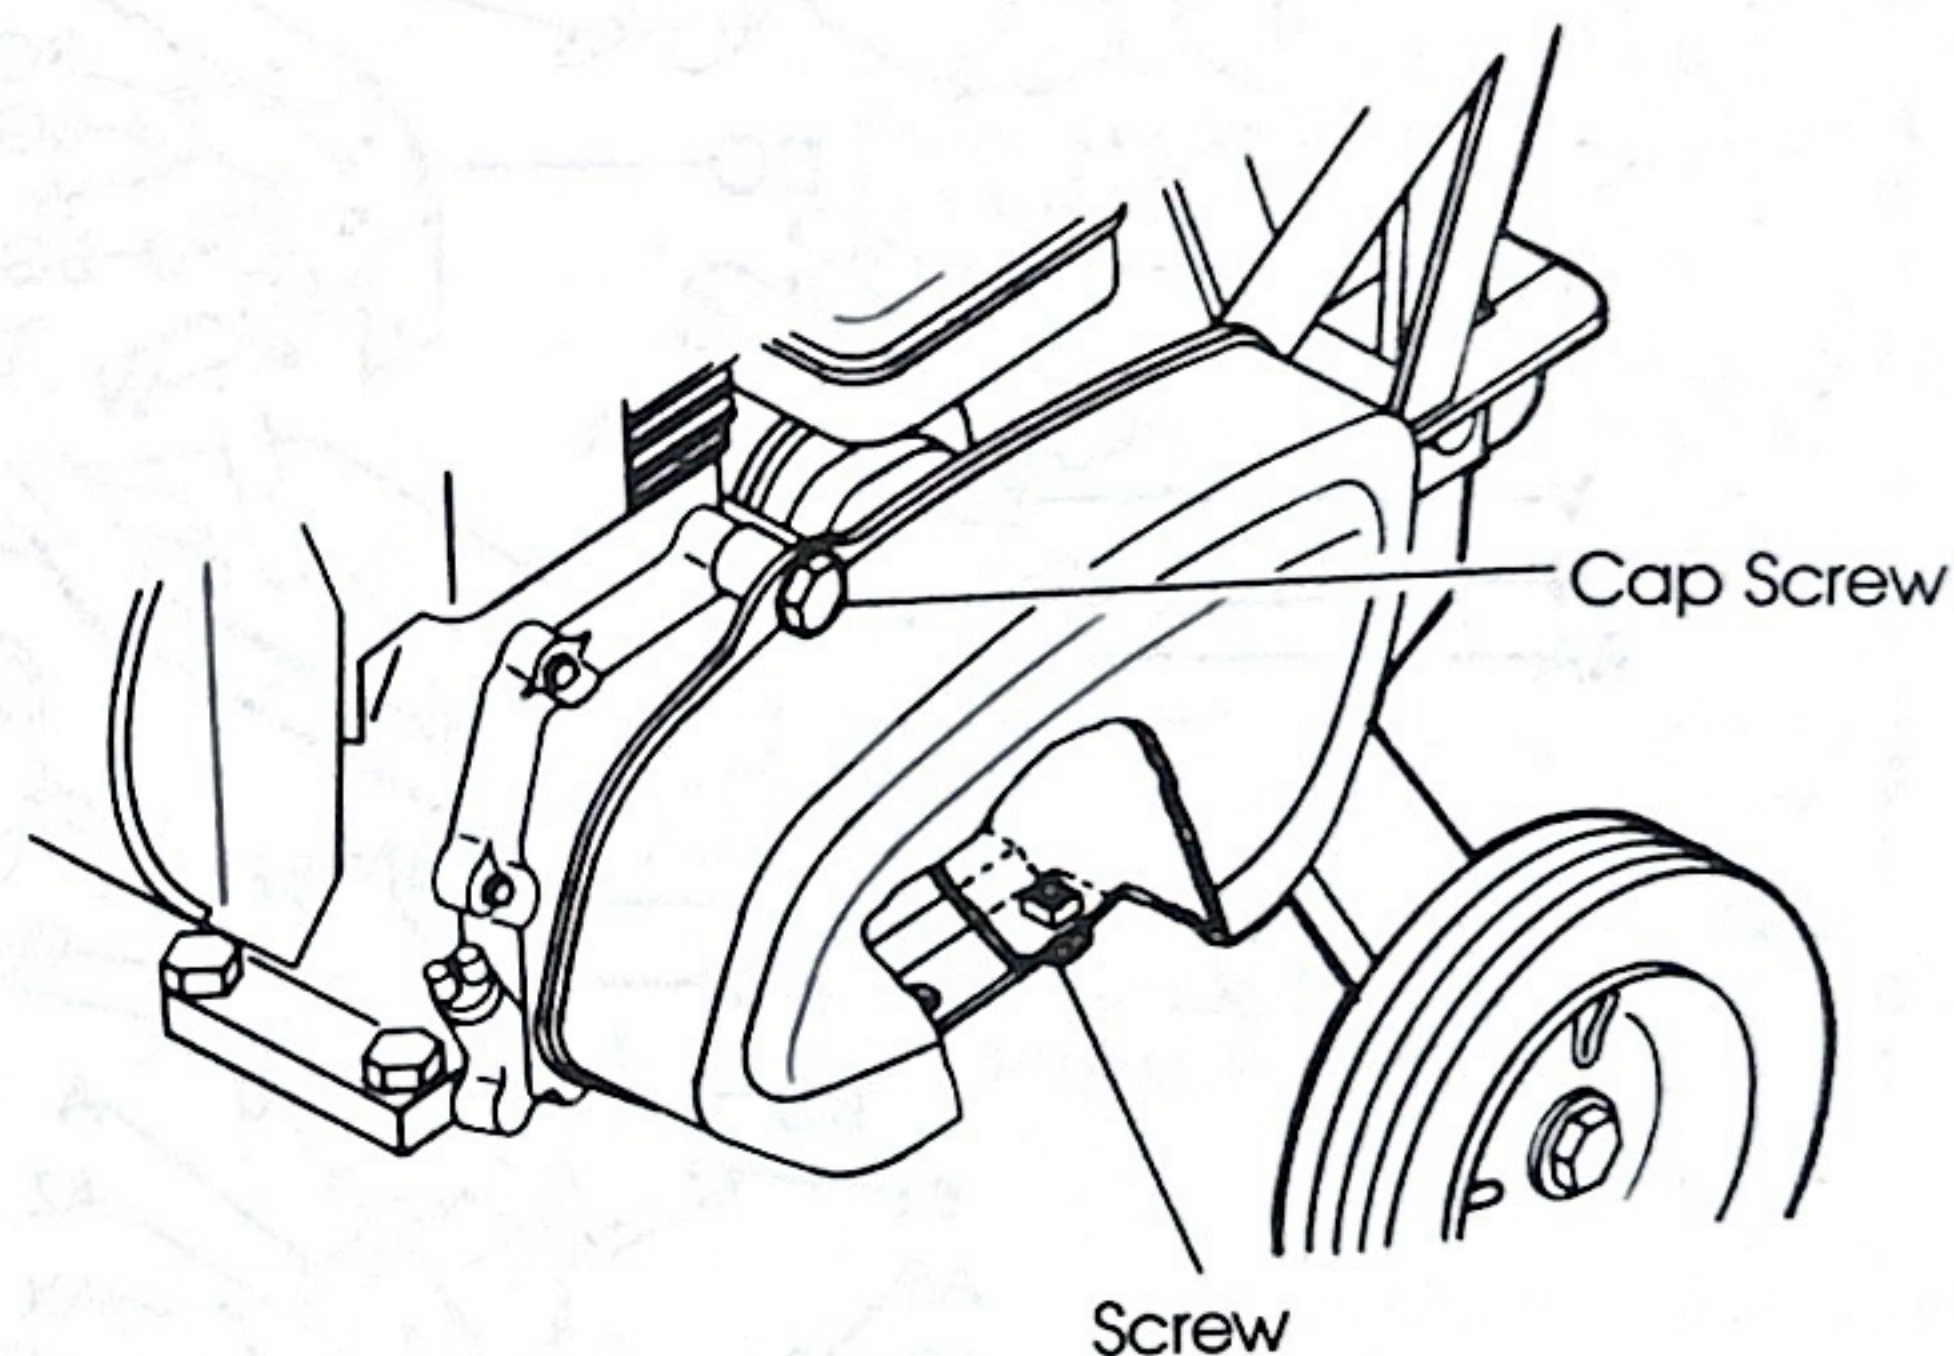

FIG. 18
1. Remove belt guard from tiller. Save the hardware, (Fig. 18).